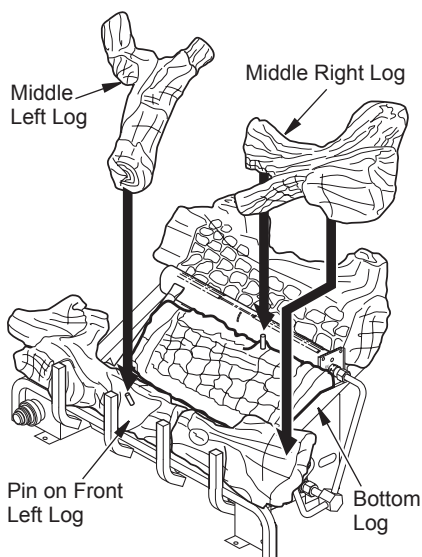

Figure 27 - Installing VUL Model Log Sets
5. Place middle right log over front right and bottom logs as shown in Figure 27, page 19. Be sure hole in middle right log seats over pin in bottom log.
6. Place middle left log over front left and bottom logs as show in Figure 27. Be sure hole in middle left log seats over pin in front left log.